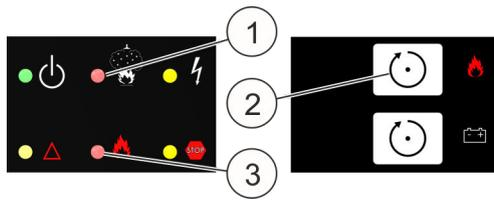

Fig. 40: LEDs and [Reset] button
- “Fire alarm detector 1”, “Pre-alarm”, LED “Extinguishing system triggered” flashes (Fig. 40/1)
- “Fire”, LED “Extinguishing system released” (Fig. 40/3)
- Reset the alarm with the upper *[Reset]* button (Fig. 40/2) after at least 2 minutes so that the test gas can fully escape from the measuring chamber. The red LEDs go out and the alarm messages in the display are deleted.